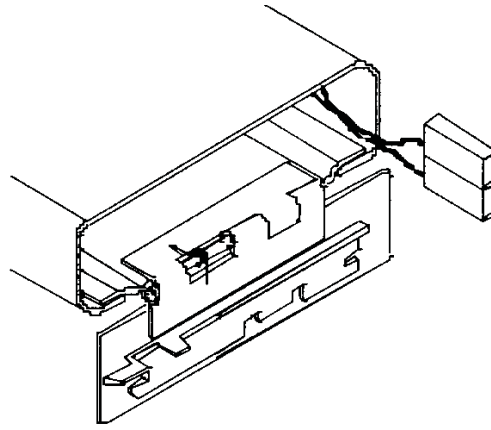

Figure 3-2, Battery Connector Location
4. Position the battery connector as shown in Figure 3-2, Battery Connector Location.